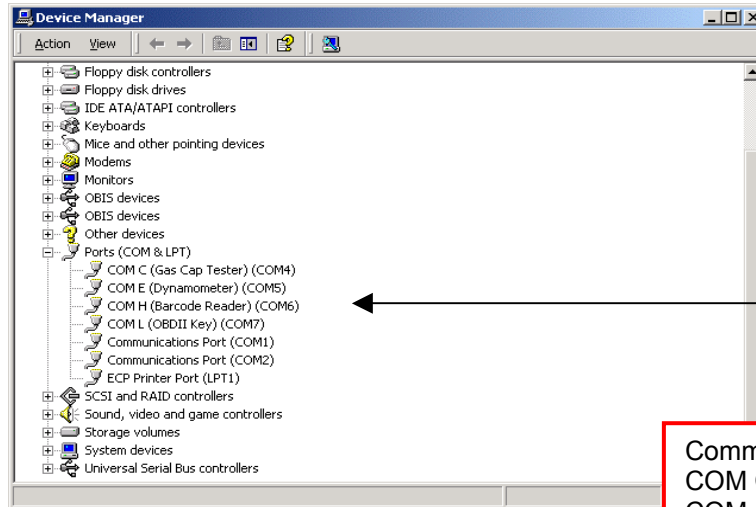

Figure 8
6. Compare your device settings with the figures 8 or 9.
7. Note that the COMM values might no be the same as you see in the figures 8 or 9, but the labels for the COMM PORTS should be identical.
**NOTE:** *ENSURE THERE ARE NO YELLOW (!) OR (?) OR RED (X) CHECK MARKS (ERRORS) IN THE DEVICE MANAGER (SEE FIGURES 8, 9 BELOW).*